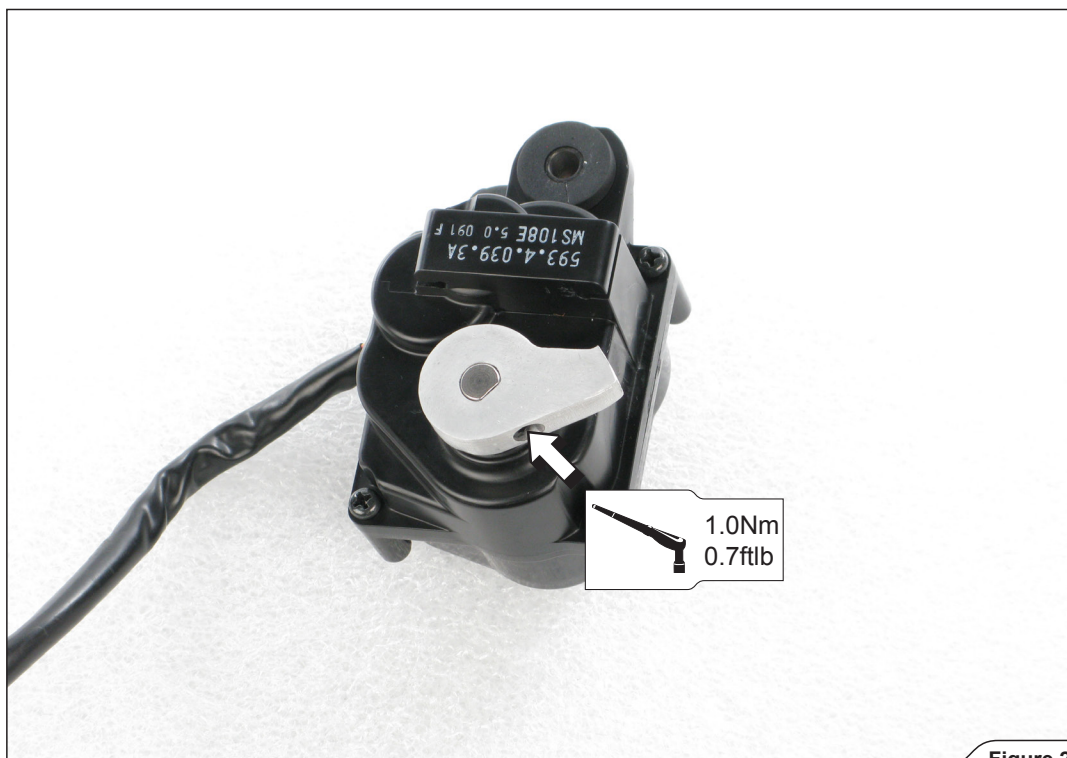

Figure 21
1. Assemble the servo motor limiter using stock bolt in the exact position as shown. Tighten the bolt to specified torque (Figure 21).